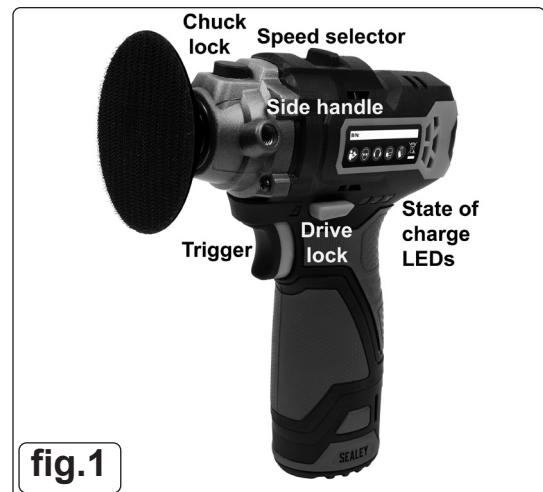

fig.1
- 5.1. To attach/remove the applicator pad depress the chuck lock button behind the chuck (fig.1) and screw/unscrew the applicator pad.
- 5.3. Attach the battery to the polisher. Press trigger LEDs (fig.1) show charge (three lights indicate full charge).
- 5.4. Set the required speed by use of the speed selector switch (fig.1).
- 5.5. Unlock the drive lock (fig.1).
- 5.6. Fit and grip the side handle and start the polisher by gentle and slow application of pressure on the trigger (fig.1).
- 5.7. Increase/decrease the speed of the polisher using the variable speed control trigger (fig.1) to suit the task in hand.